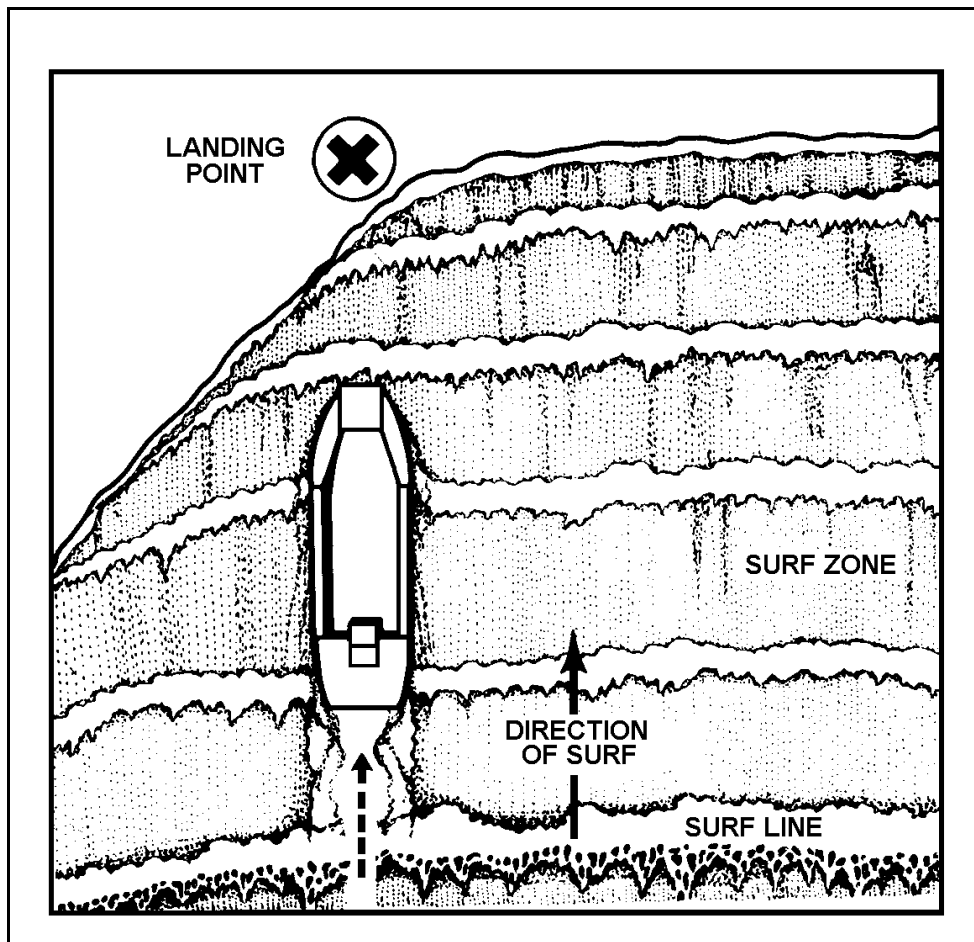

Figure 14-2. Crossing the Surf Line
- Cross the surf line at a right angle to the advancing waves (Figure 14-2, page 14-4). Waves are not always parallel to the beach.